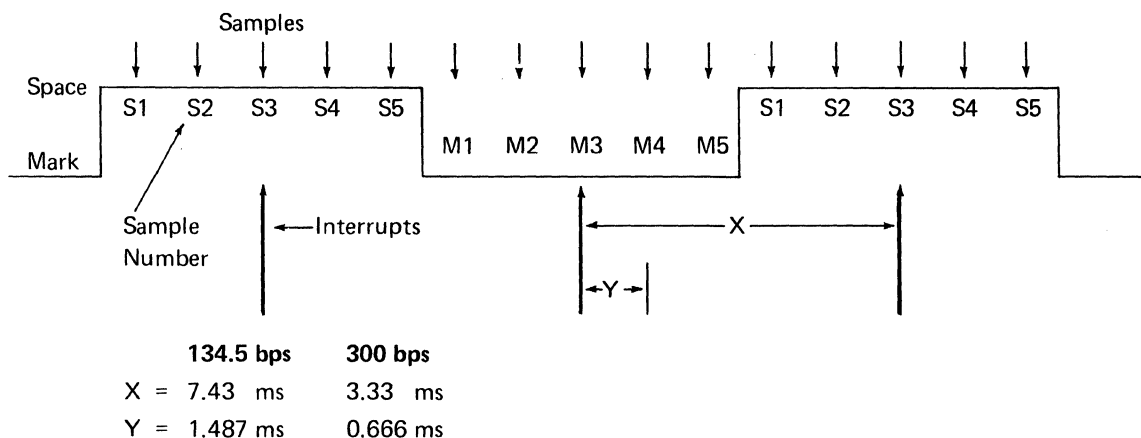

Figure 2. Sample Sequence
3. Number of sample errors for each sample position for both mark and space bits (Figure 2)